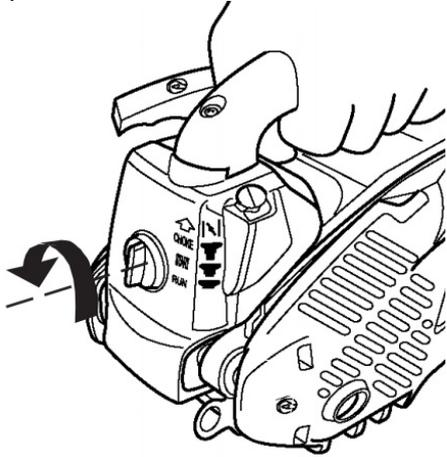

Fig.45
- a) Remove the filter cover (fig. 45) by unscrewing the knob.
1) Remove the filter cover (fig. 45) by unscrewing the knob.